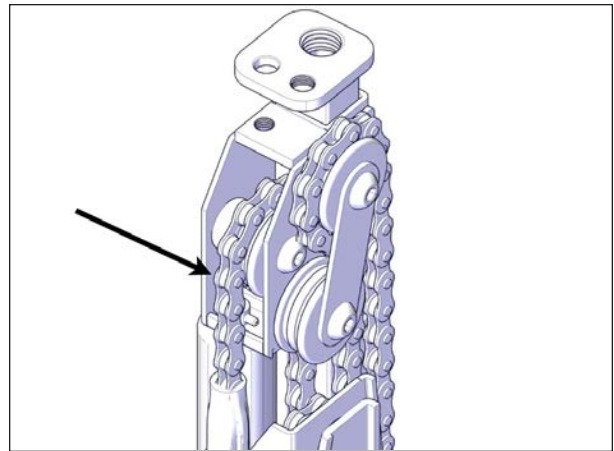

FIGURE 111: JACK CHAINS
- Inspect the chains for signs of deterioration. If this is the case, please call your local Covana dealer immediately, see Figure 111.